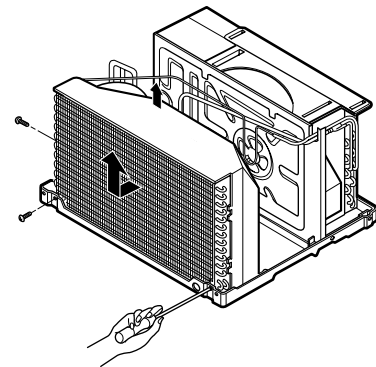

Figure 12
6. Re-install the component by referring to notes. (See Figure 12)